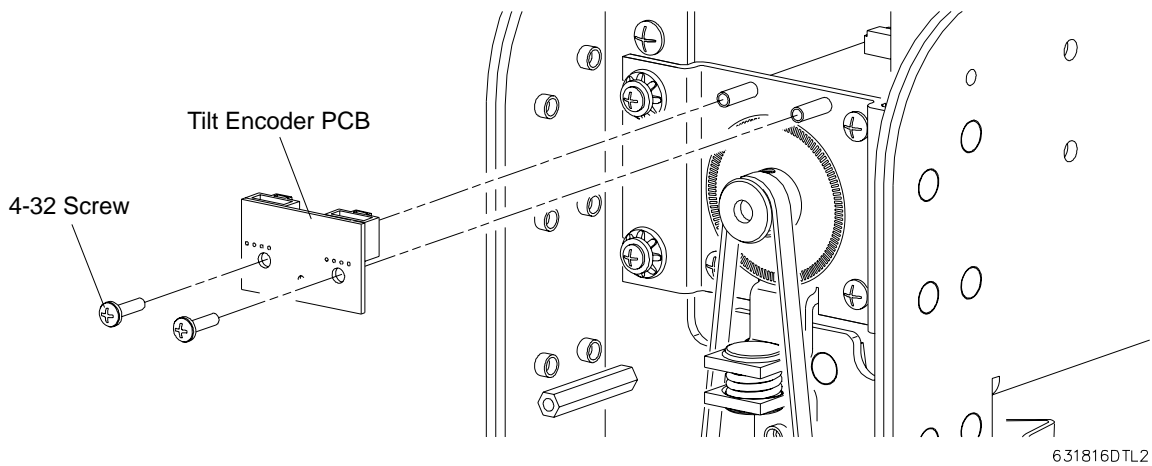

Figure 2-25: Tilt Encoder PCB Replacement
- Step 3. As shown in **Figure 2-25**, at tilt encoder PCB, remove two 4-32 screws.